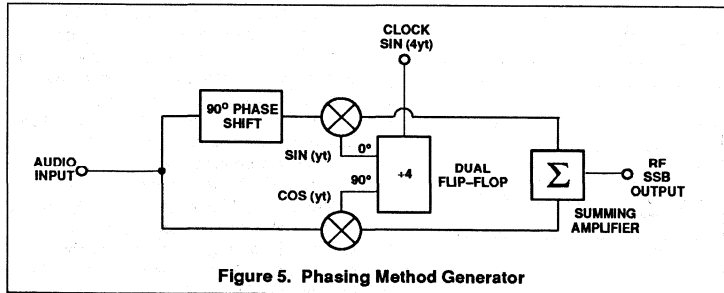
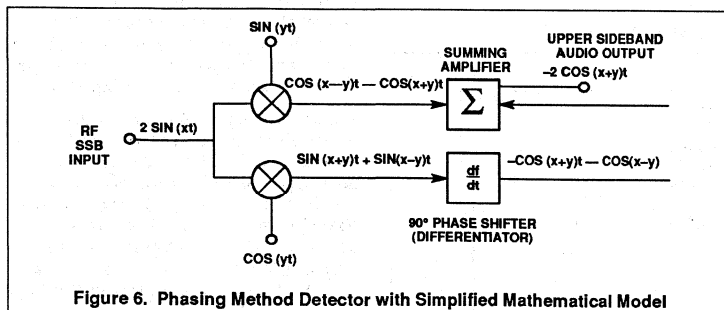

Figure 5. Phasing Method Generator
Figure 6. Phasing Method Detector with Simplified Mathematical Model
Figures 5 and 6 show block diagrams of a generator and demodulator which use the phase method. Figure 6 also includes a mathematical model. The input signal $\cos(Xt)$ is fed in-phase to two RF mixers where "X" is the frequency of the input signal. The other inputs to the mixers are fed from a local oscillator (LO) in quadrature $\cos(Yt)$ and $\sin(Yt)$, where "Y" is the frequency of the LO signal. By differentiating the output of one of the mixers and then summing with the other, a single sideband response is obtained. Switching the mixer output that is differentiated will change the selected sideband, upper (USB) or lower (LSB). In most cases the mixer outputs will be the audio passband (300 to 3000Hz). Differentiating the passband involves a 90 degree phase shift over more than three octaves. This is the most difficult aspect of using the phasing method for voice band SSB.